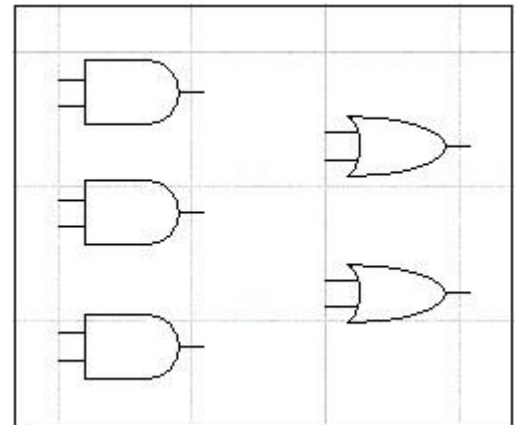

Figure 11: Or Gate Placement
- Connect the output of this inverter to one of the inputs of the last AND gate and connect the other AND gate input to switch A. Your design should now resemble the circuit window in Fig.11□